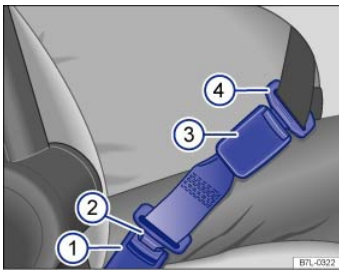
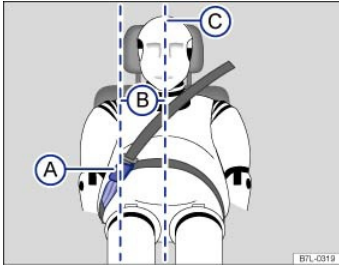

Fig. 64 A safety belt extender properly attached to the factory-installed safety belt.
Fig. 65 Positioning of the safety belt extender.
**Key to ⇒ Fig. 64 :**
- ① Vehicle safety belt buckle.
- ② Buckle tongue on the safety belt extender.
- ③ Safety belt buckle on the safety belt extender.
- ④ Safety belt buckle tongue on the factory-installed safety belt.
**Key to ⇒ Fig. 65 :**
- Insert the buckle tongue on the safety belt extender ⇒ Fig. 64② into the vehicle belt buckle for the seat where the safety belt extender is being used ⇒ Fig. 64①.
- Never use a safety belt extender if the distance (B) between the front edge of the safety belt extender buckle (A) and the centerline of the person using the safety belt extender ⇒ *Fig. 65* is less than 6 inches (15 cm).